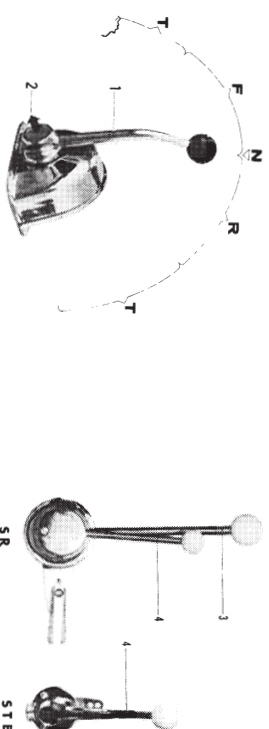

Fig. 8. Controls
1. Move the control lever to the neutral position, and on the MT controls disengage the shift mechanism, see instruction at Fig. 8. Then push the speed control to **full throttle**, and this provides fully satisfactory injection, even during cold weather.